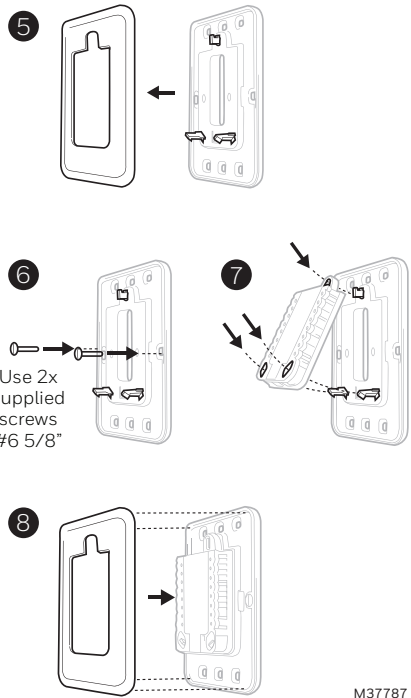

Fig. 10
1. Separate the Junction Box Adapter from the Cover Plate. See Step 5 in Fig. 10.
2. Mount the Junction Box Adapter to the wall or an electrical box using any of the eight screw holes. Insert and tighten mounting screws supplied with Cover Plate Kit. Do not over-tighten. Make sure the Adapter Plate is level. See Step 6 in Fig. 10. Use 2x supplied screws #6 5/8".
3. Attach the UWP by hanging it on the top hook of the Junction Box Adapter and then snapping the bottom of the UWP in place. See Step 7 in Fig. 10.
4. Snap the Cover Plate onto the Junction Box Adapter. See Step 8 in Fig. 10.